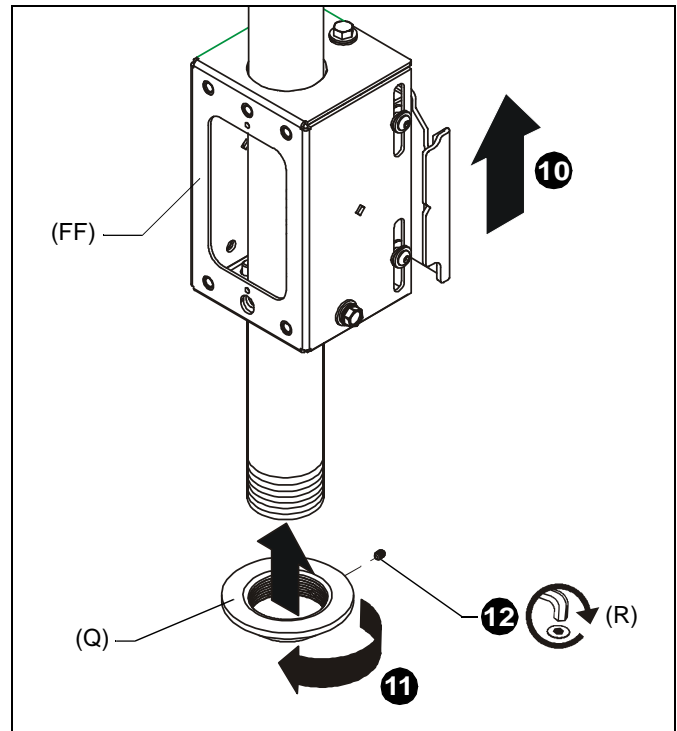

Figure 3
10. Slide array head (FF) up from below onto installed column (not included). (See Figure 3)
11. Thread bottom coupling (Q) onto installed column until tight, with a minimum of four threads engaged. (See Figure 3)
12. Install and tighten one 10-24 x 1/4" set screw (R) into bottom coupling (Q). (See Figure 3)